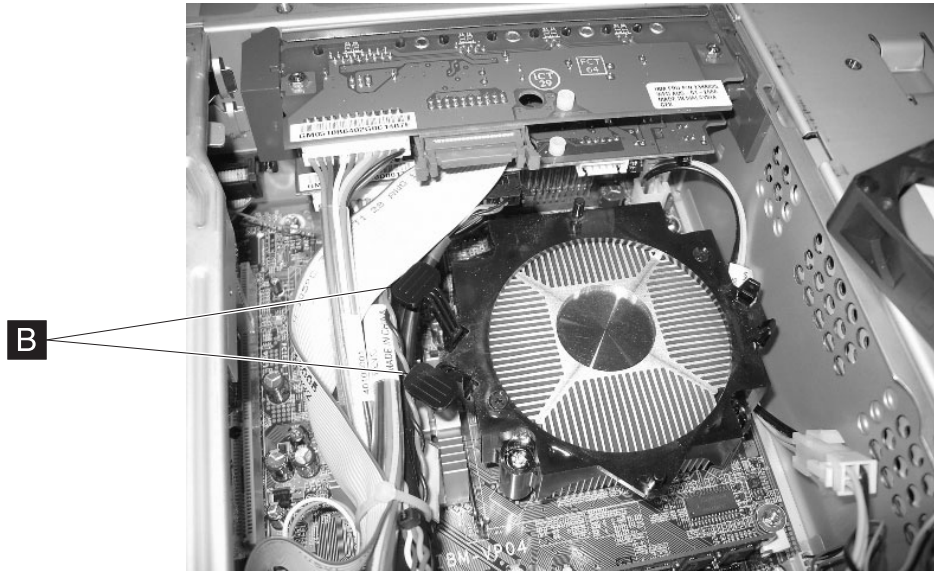

Figure 33. Processor fan and levers
4. Remove the processor fan by pressing down on the levers (**B** in Figure 33) to release the connections.